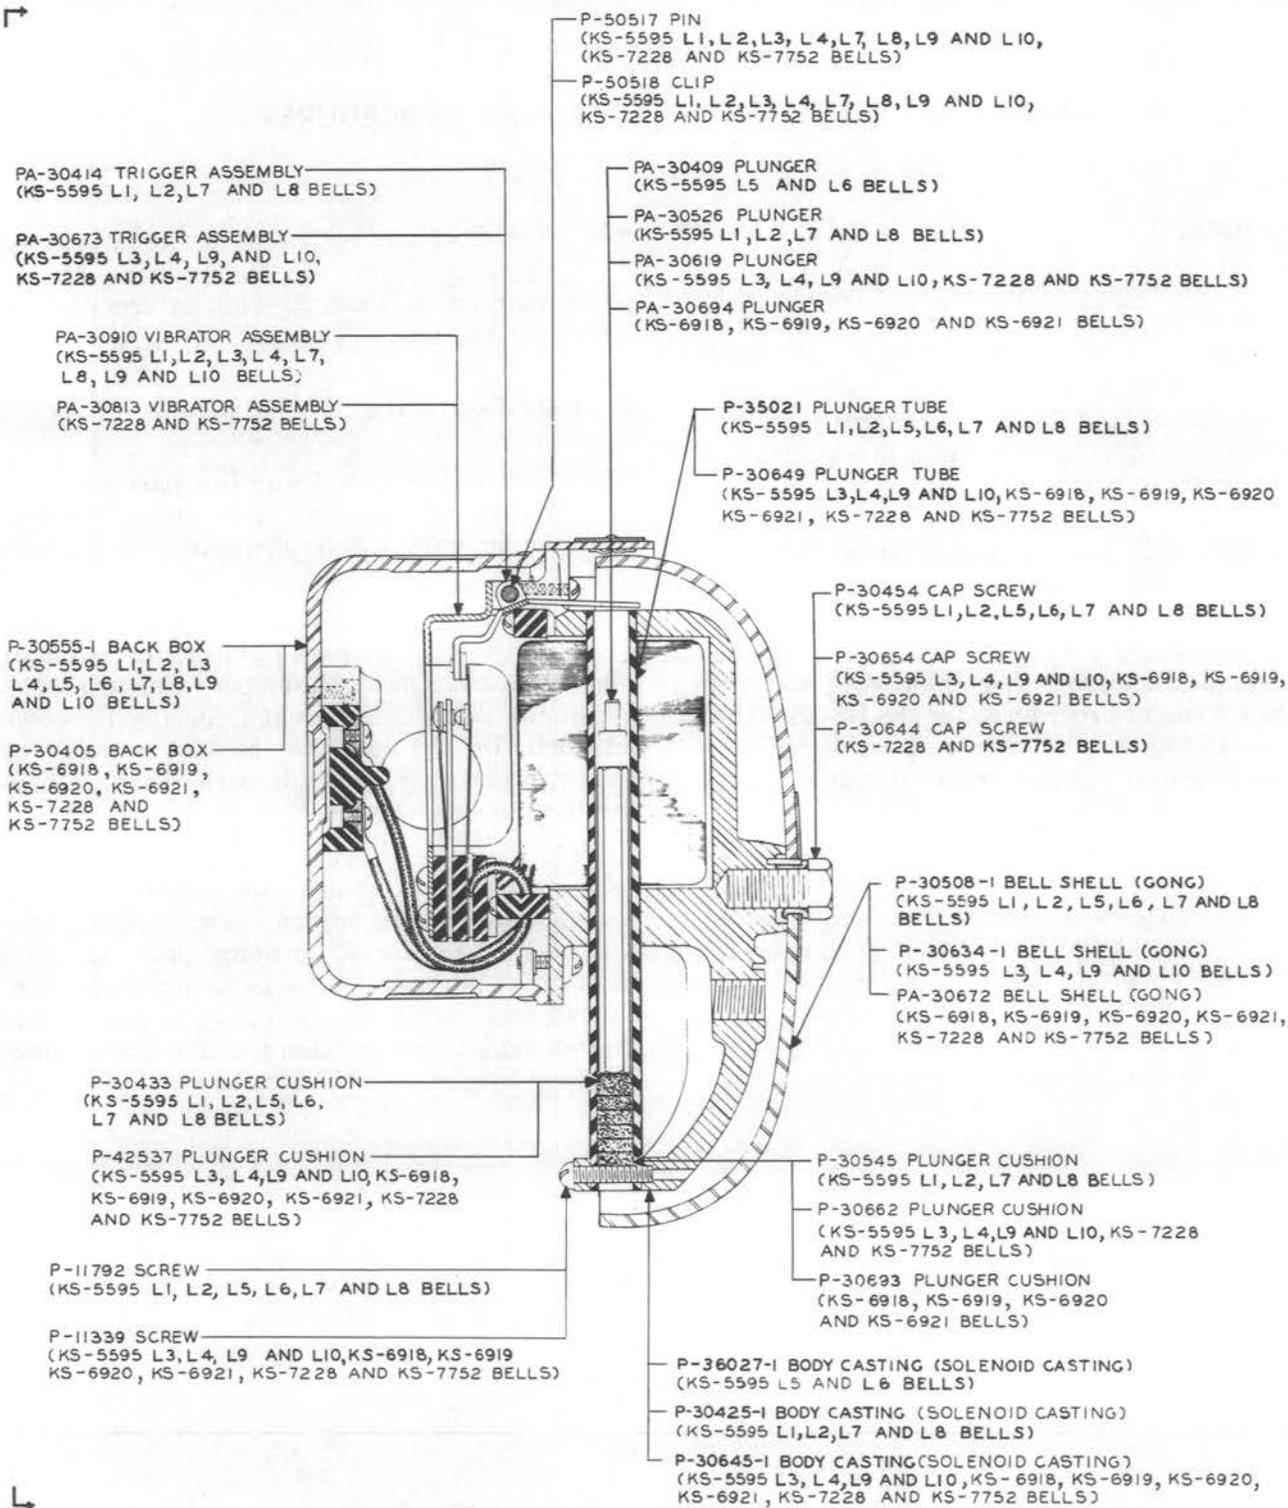

Fig. 1 - KS-5595, L1 Through L10, KS-6918, KS-6919, KS-6920, KS-6921, KS-7228, and KS-7752 Bells
**KS-5595 L1 Through L10, KS-6918, KS-6919, KS-6920, KS-6921, KS-7228, and KS-7752 Bells (Fig. 1)**
2. To add piece-part data for KS-5595, L1, L2, L3, and L4 bells (Fig. 1).